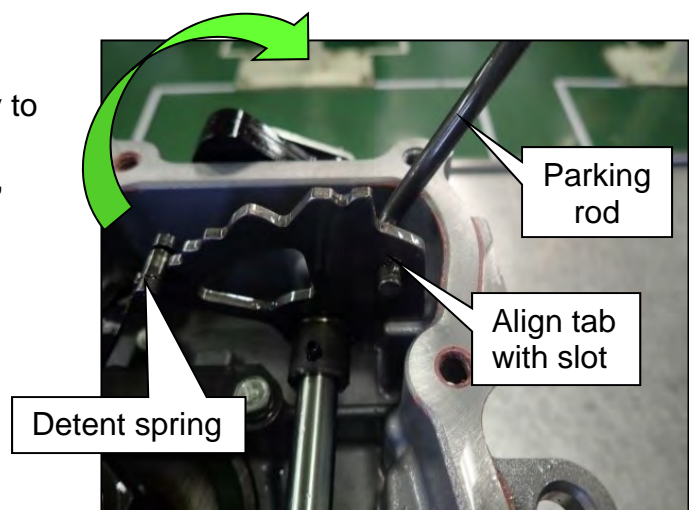

Figure 77
- c. Rotate the parking rod vertically to align the tab on the parking rod with the slot on the detent plate, and then separate it from the detent plate (Figure 77).